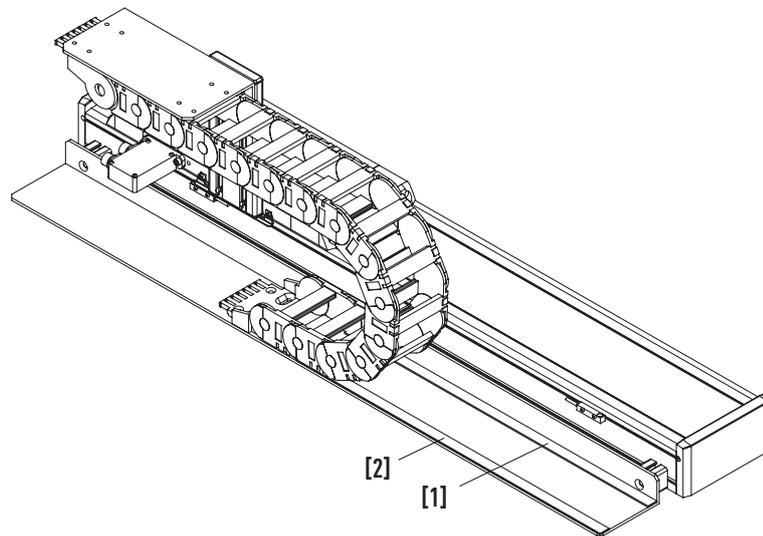

Fig. 6.104 Linear axis with mounted noise reduction tape
- ▶ Glue the 1st tape **[1]** flush with the edge of the energy chain's contact surface (see Fig. 6.104).